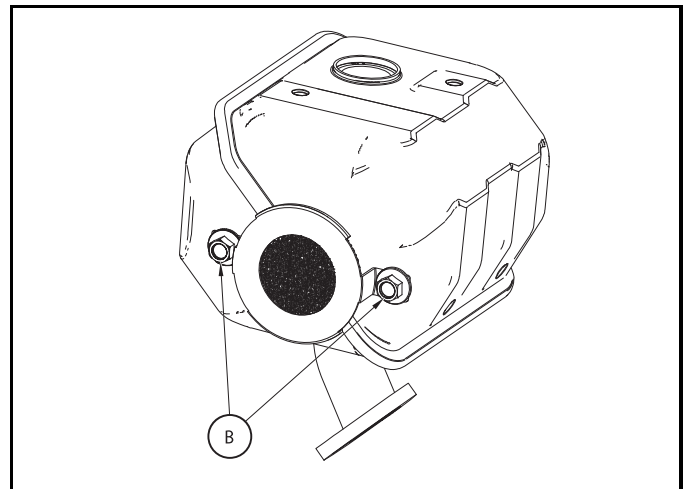

Figure 6-11. Remove Spark Arrester
2. Remove the spark arrester from the muffler by loosening the two (2) Bolts (B) (Figure 6-11).